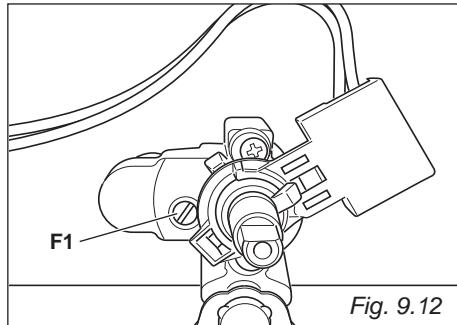

Fig. 9.12
- Using a screwdriver turn the screw "F1" until adjustment is correct (fig. 9.12).